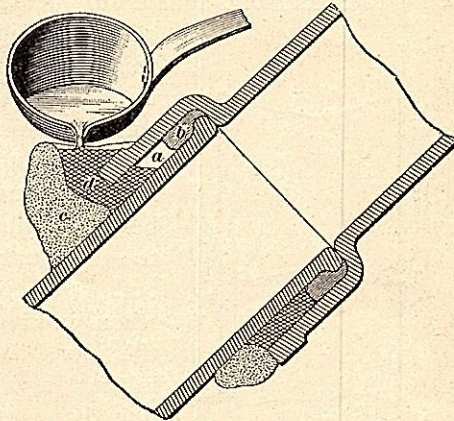

FIG. 12
**12.** It is inadvisable to try to calk an inverted joint in place unless special provision is made for air to escape from the socket, since otherwise an air lock will occur, as shown at *a* in Fig. 12. If the oakum *b* is calked solidly home, it will be practically air-tight. The air at *a*, therefore, cannot escape freely, and hence the lead will set before the space is filled. After the clay band *c* is removed, the lead is